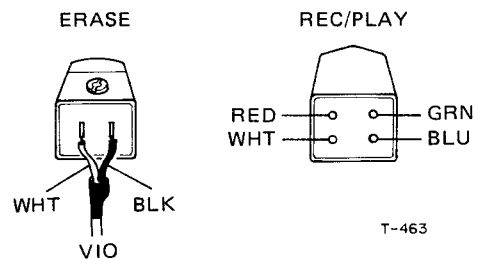

Fig. 4-4 Head Wiring Diagram
1. Unsolder each lead wire from the terminal pins of the head to facilitate replacement. To re-solder each head wire to the newly replaced head, refer to Fig. 4-4.